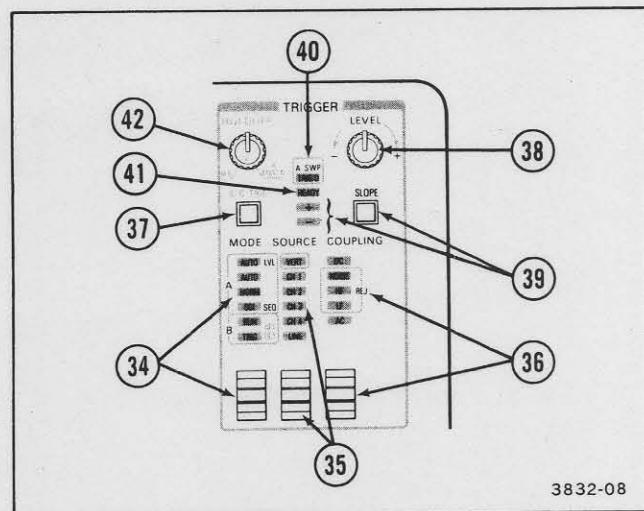

Figure 3-5. Trigger controls and indicators.
Refer to Figure 3-5 for items 34 through 42.
- (34) MODE Switch and Indicators—Selects the trigger mode of either the A Sweep or the B Sweep. A single push of the switch steps the MODE selection once; holding the switch up or down causes the MODE selection to step repeatedly. Indicators show the selected trigger mode of either the A Sweep or the B Sweep according to the selected Horizontal Display Mode and as directed by the A/B TRIG switch.